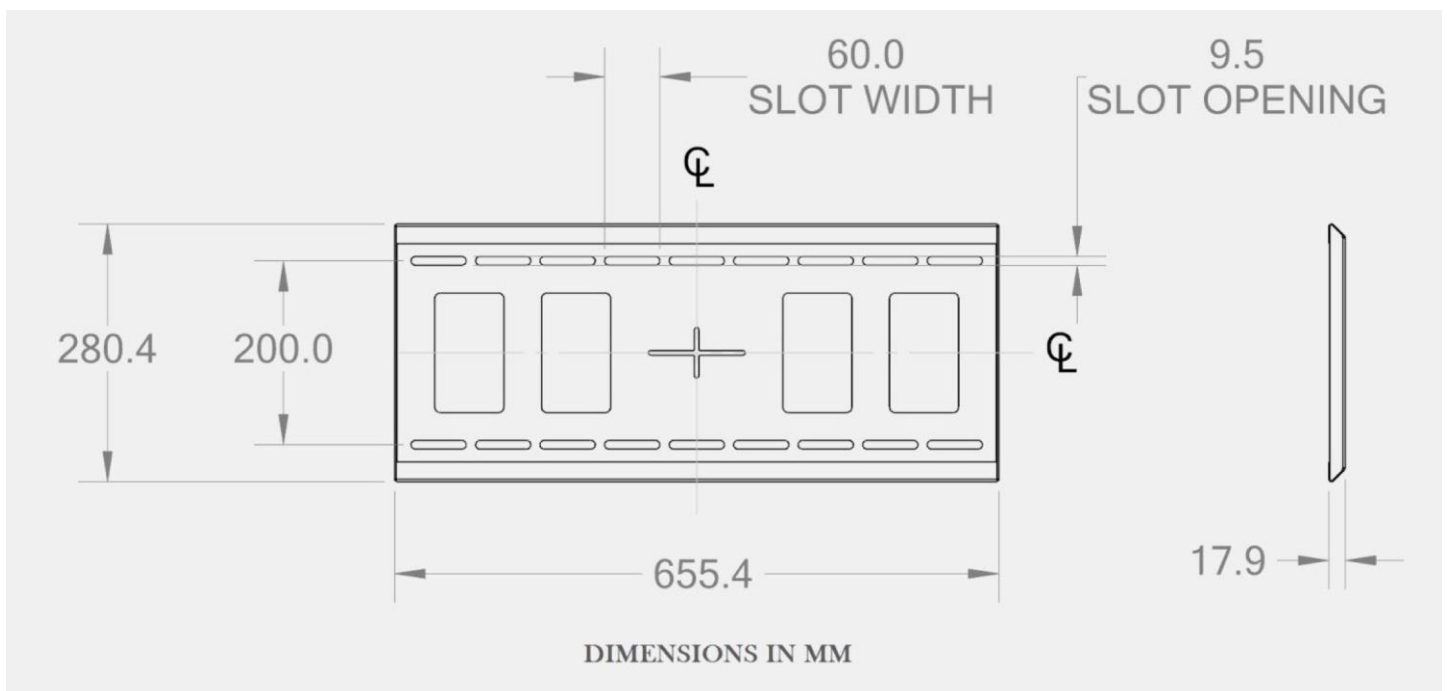

Figure 4. Wall bracket dimensions
2. It is recommended that the center of the bracket be 55" from the floor; measure and mark this dimension. Note that the center of the bracket (the "cross hair" as seen in figure 4) aligns with the vertical center of the device. Also ensure that the wall bracket is level before hanging the device.